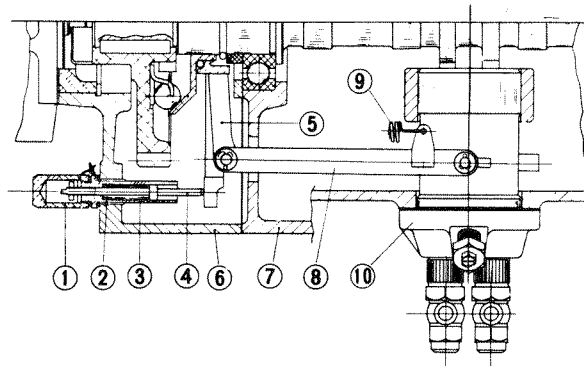

Fig. 26 Automatic fuel control device
- © The automatic fuel control device is equipped to the gear housing. (Fig. 26)